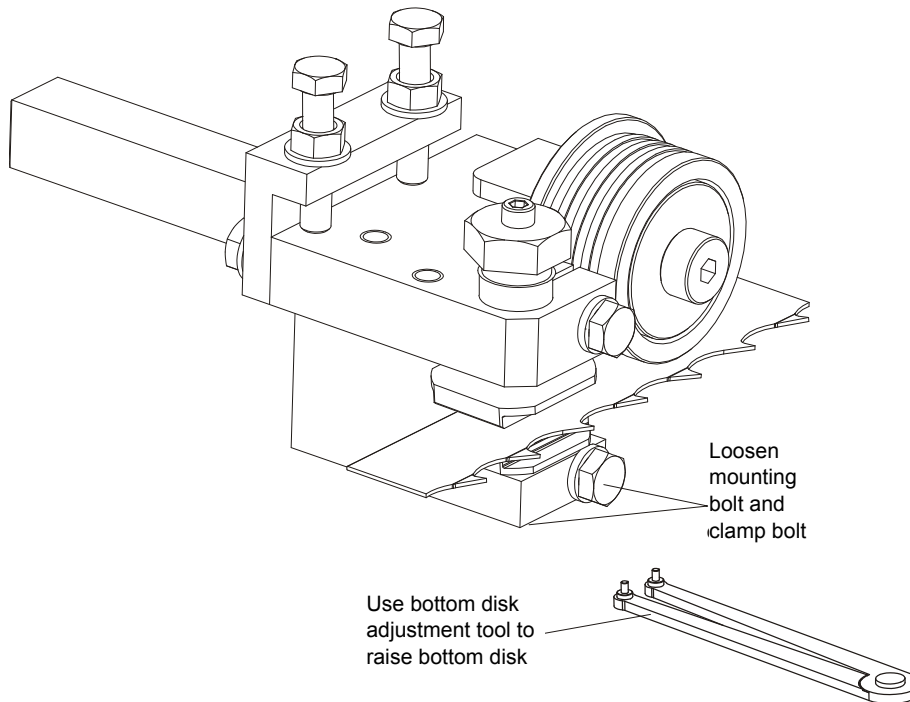

FIG. 2-1
**See Figure 2-1.** To adjust the disks up, loosen the bottom guide disk mounting bolt and clamp bolt. Use the provided adjustment tool. to raise bottom disk Retighten the bottom disk mounting bolt and clamp bolt. See Section Blade Disk Adjustment